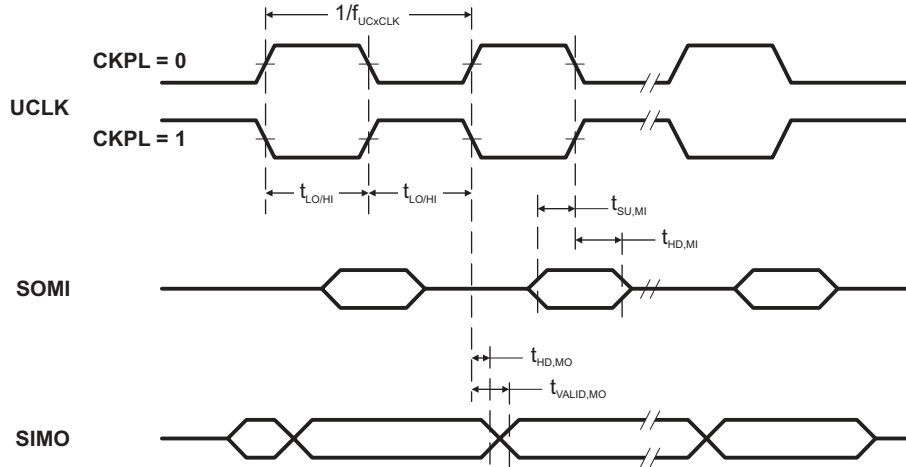
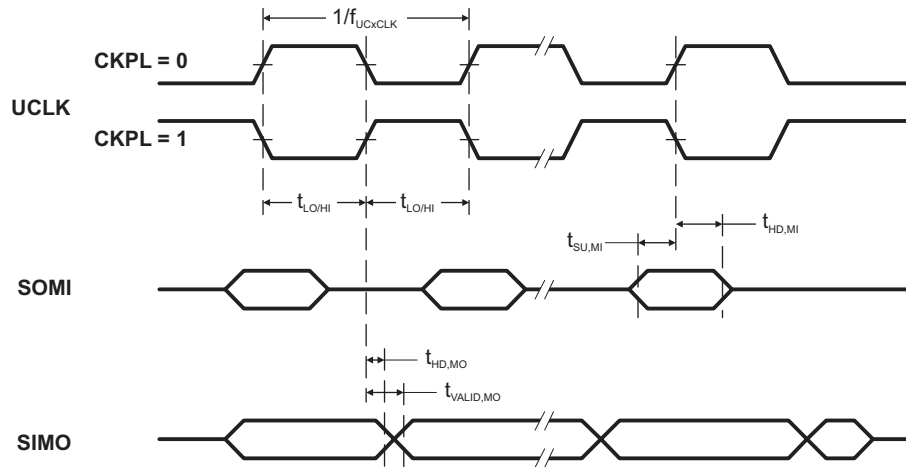

Figure 7-11. SPI Master Mode, CKPH = 0
Figure 7-12. SPI Master Mode, CKPH = 1
(see Figure 7-11 and Figure 7-12)
- (2) Specifies the time to drive the next valid data to the SIMO output after the output changing UCLK clock edge. See the timing diagrams in Figure 7-11 and Figure 7-12.
- (3) Specifies how long data on the SIMO output is valid after the output changing UCLK clock edge. Negative values indicate that the data on the SIMO output can become invalid before the output changing clock edge observed on UCLK. See the timing diagrams in Figure 7-11 and Figure 7-12.